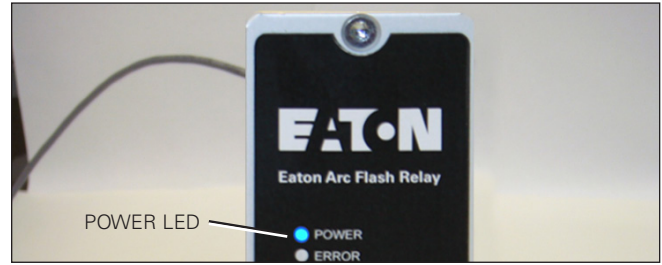

Figure 10. EAFR-01 sensor connection step 4.
4. Check the front panel of the relay. Only the POWER LED turns on at this moment (see Figure 10).